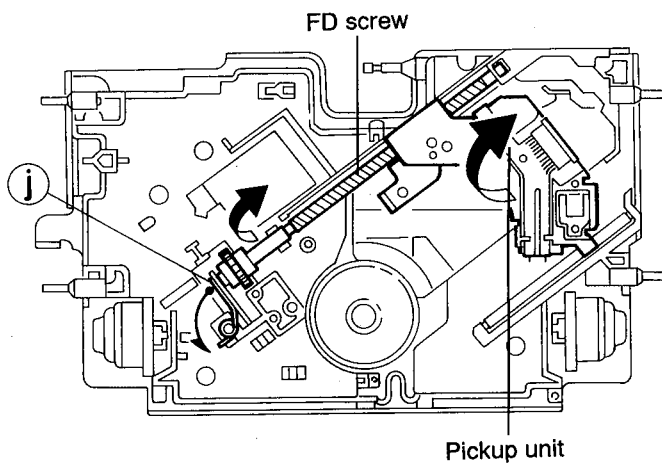

Fig. 2-21
7. While pressing and expanding the spring section ① holding the FD screw in the arrow direction, remove the FD screw and dismount the pickup unit (See Fig. 2-21).